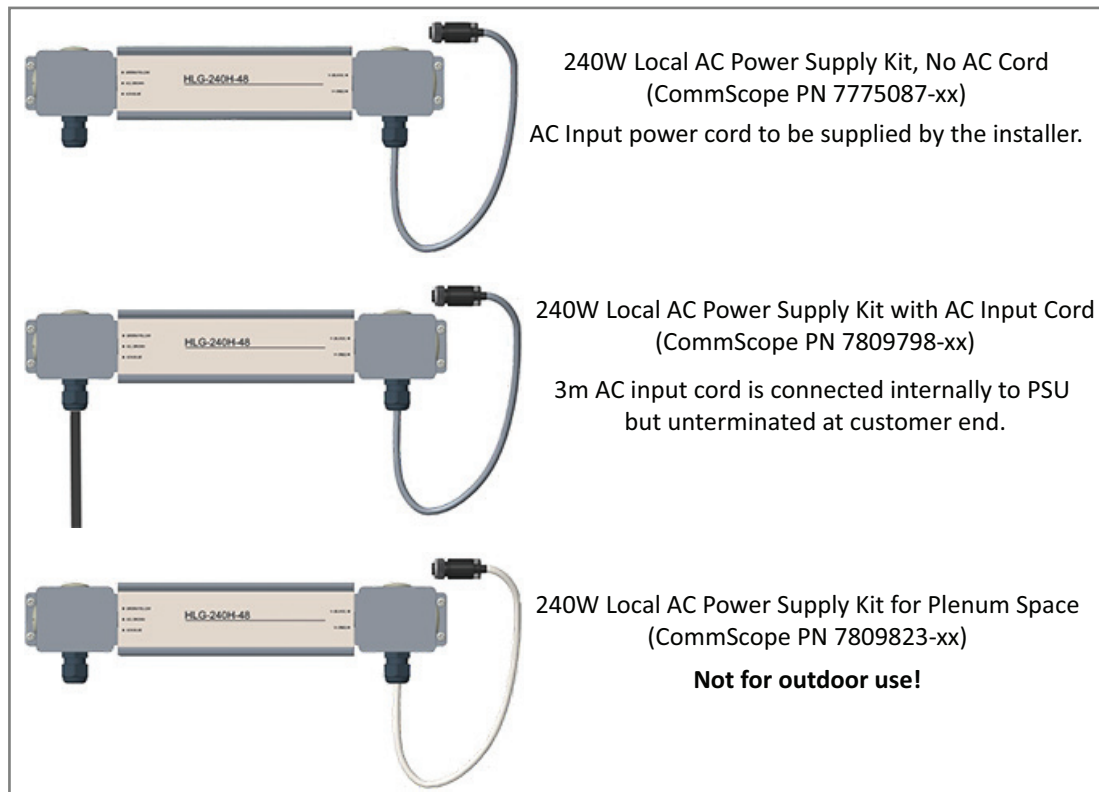

Figure 8. CommScope Local AC/DC Power Supply Kits
- 1 Obtain the AC/DC Power Supply Kit that is appropriate for this installation. Figure 8 on page 25 lists the three AC/DC Power Supply Kit part numbers; see also "Fiber CAP L2 Overview" on page 9.